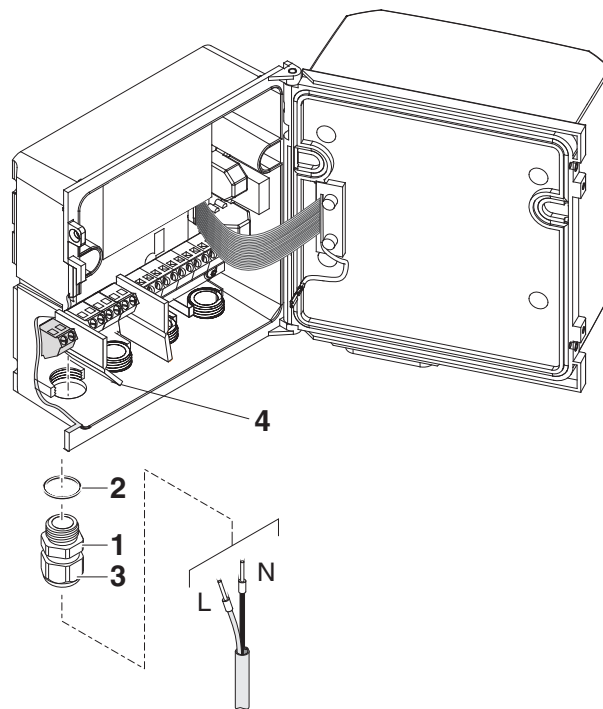

figure 3-9 Inserting the supply line
- 6 Screw a cable gland (pos. 1 in figure 3-9) with sealing ring (pos. 2) into the enclosure below the power supply connection.
- 7 Loosen the coupling ring (pos. 3).
- 8 Feed the power line through the cable gland into the enclosure. When doing so bend the flexible divider (pos. 4) to the right.
- 10 Tighten the cap nut (pos. 3 in figure 3-9).